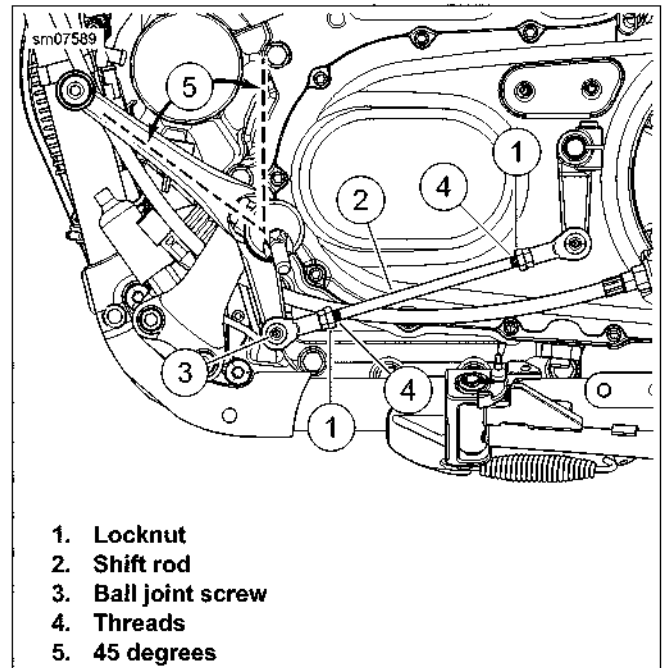

Figure 2-184. Shifter Linkage: Models with Forward Controls
1. See Figure 2-184. Loosen locknuts (1) on shift rod (2).
2. Remove ball joint screw (3).